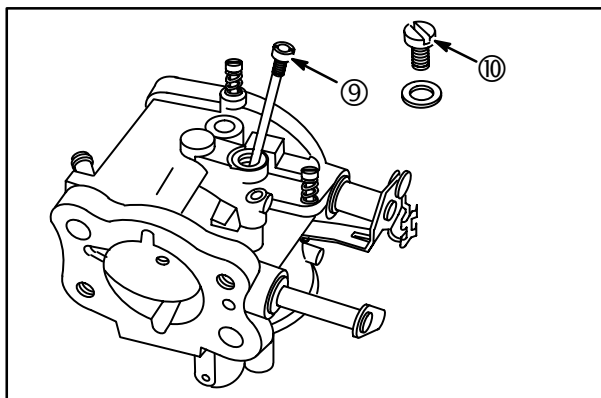

Fig. 26
6. Remove idle jet plug (10) and idle jet (9), **Fig. 26**.